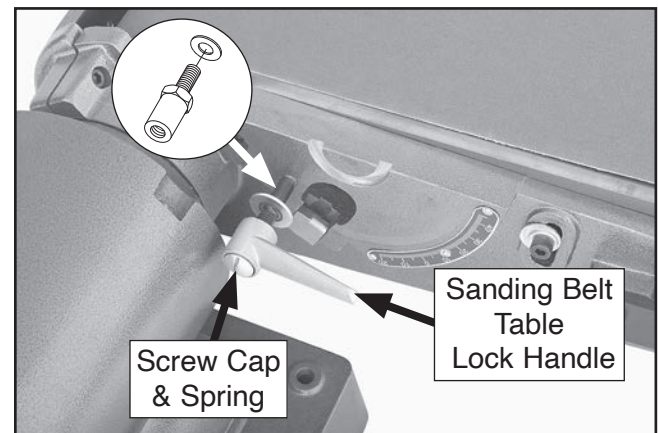

Figure 12. Location of sanding belt table lock handle fasteners.
1. Remove screw cap and spring on sanding belt table lock handle, remove handle, then remove lock bolt and flat washer from sander (see **Figure 12**).